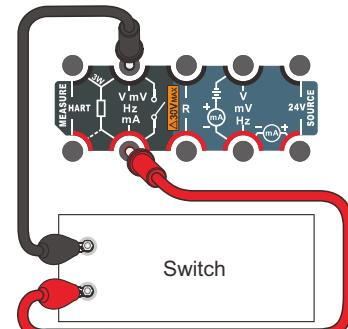

Figure 8.6 Limit Switch Test
1. Figure 8.6 shows the switch test connections.